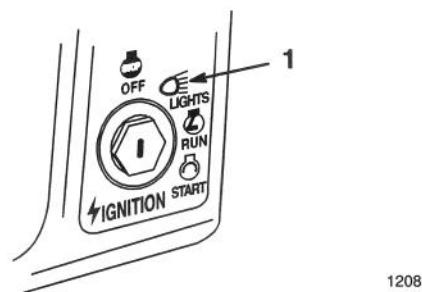

**Figure 10**
1. Raise the seat and loosen the adjustment knobs (Fig. 10).